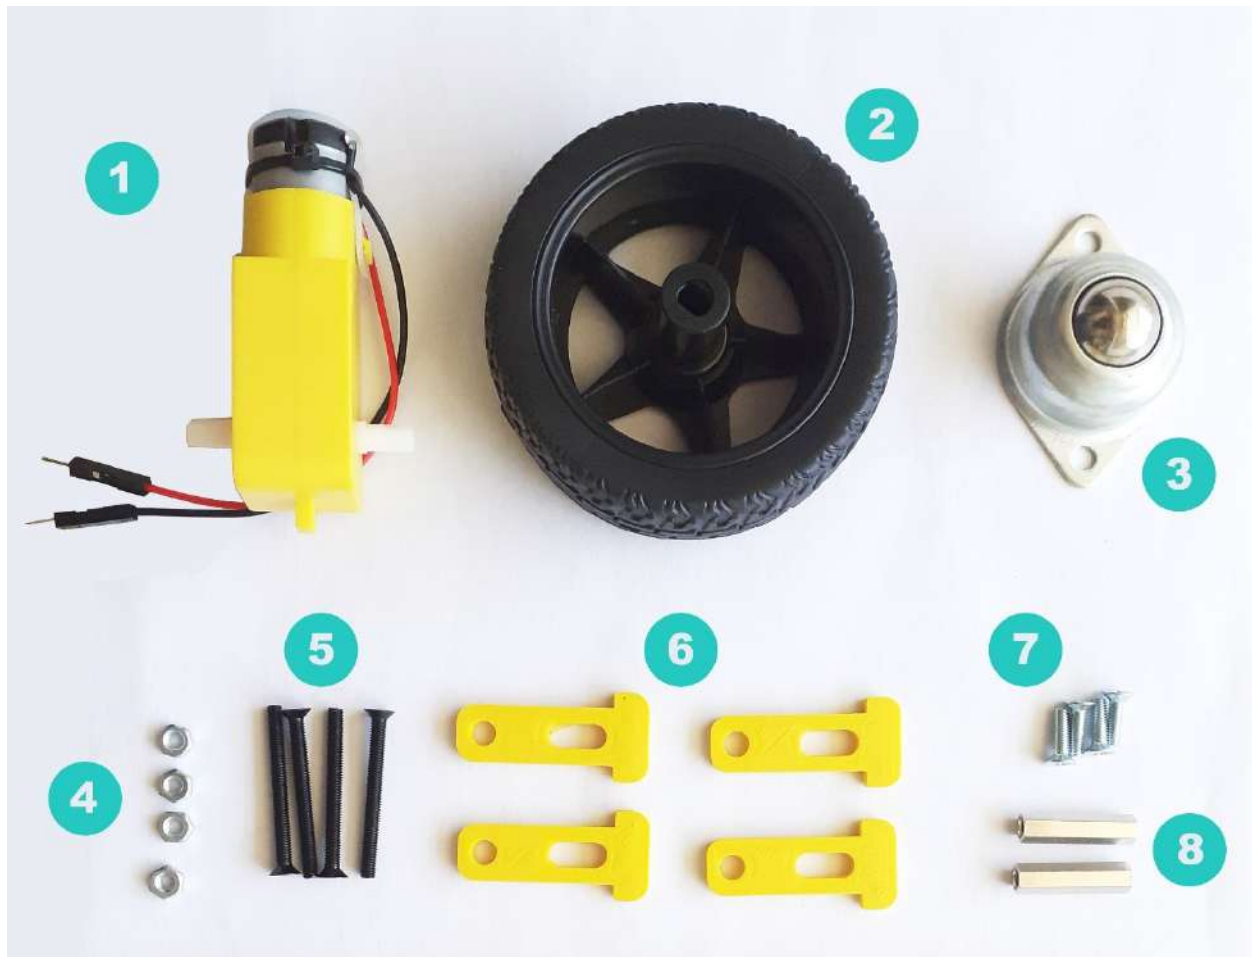

Figure 3: The component that will be attached to the bottom side of the chassis
Start the construction from the bottom side of the chassis. The components you will need are, the 2 DC gear motors (1), the 2 Wheels (2), the ball caster (3), the 4 nuts (4), the 4 30mm screws (5), the 4 3D printed brackets/fasteners (6), the 4 10mm screws (7), and the 2 20mm spacers (8) (Figure 3).